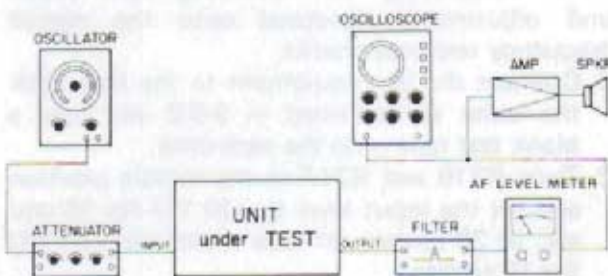

Fig. 9-5-14. Erase Ratio Test Set-Up
1. Connect test equipment to the tape deck as shown in Fig. 9-5-14. The filter to be connected should be a 1 kHz bandpass filter.